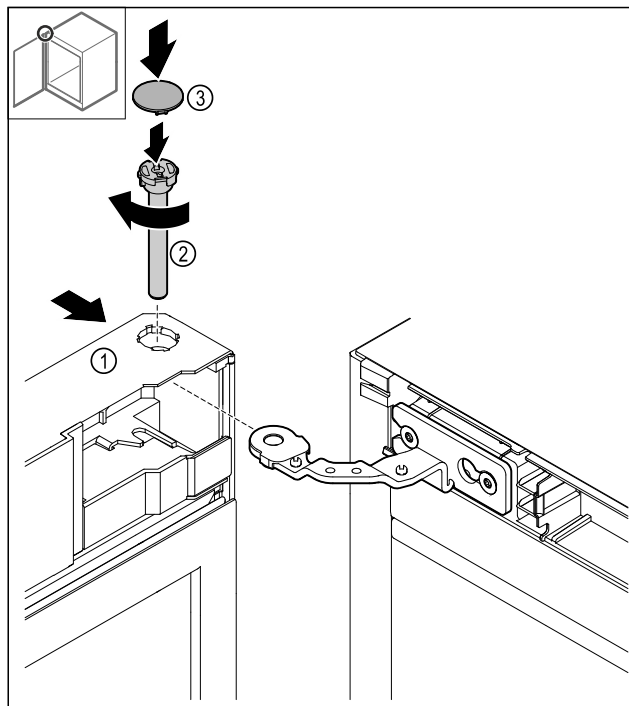

Fig. 46
- Slide the door Fig. 46 (1) onto the top hinge.
- Insert the bolt Fig. 46 (2) and turn it clockwise to tighten.
- Put on the cover Fig. 46 (4).